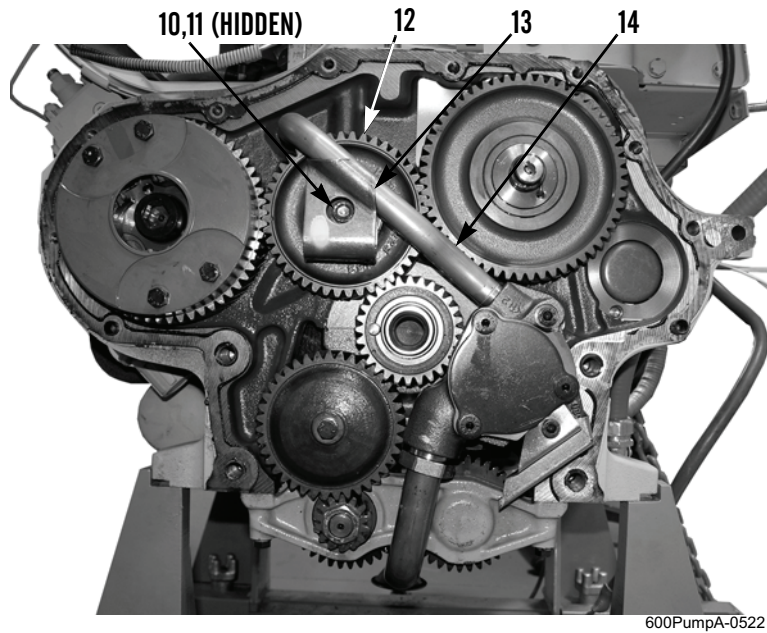

Figure 3. Oil Pump.
- Remove torx head screw (Figure 3, Item 10), thrust washer (Figure 3, Item 11), and yoke spring (Figure 3, Item 13) from idler gear (Figure 3, Item 12) and oil pressure line (Figure 3, Item 14).